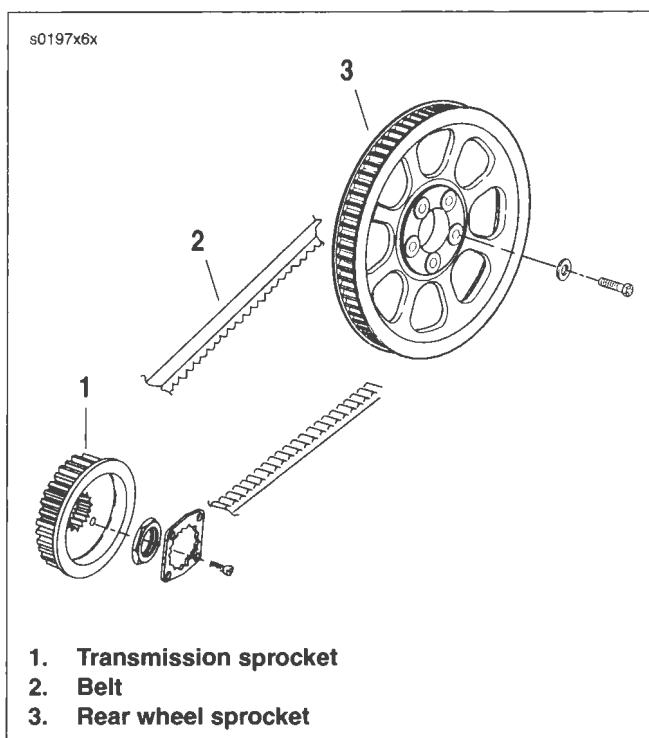

Figure 6-38. Belt and Transmission Sprocket
5. See Figure 6-38. Slip drive belt (2) from transmission sprocket (1).
1. See Figure 6-38. Install belt (2) over transmission sprocket (1).